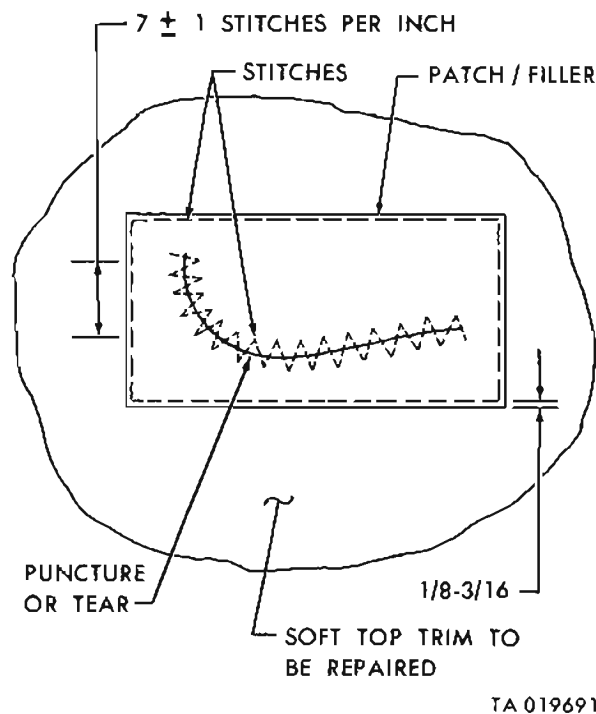

Figure 17-26.1 Soft Top Repair.
(1) Cut a patch from the vinyl coated nylon cloth to approximately the shape of the tear allowing at least one inch of overlap around the puncture or tear.
(2) Cut a filler from the cotton duck material to identical size and form as the vinyl patch.
(3) Place the filler first, then the patch on the interior surface of the fabric to be repaired, i.e., the filler would be sandwiched between the soft top material and the vinyl coated nylon patch.
(4) Line up the patch and the filler and mechanically sew in place, using seven (plus or minus one) stitches per inch in accordance with Federal Standard 751, applying a zigzag pattern on the tear form and a straight line pattern on the patch filler outer edges as shown in figure 17-26.1.
Figure 17-26.1 is added as follows: